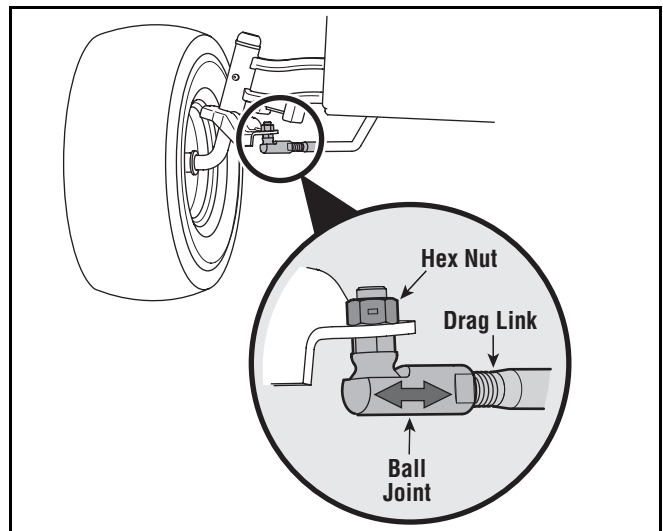

Figure 16
1. Remove the hex nut on the top of ball joint. See Figure 16